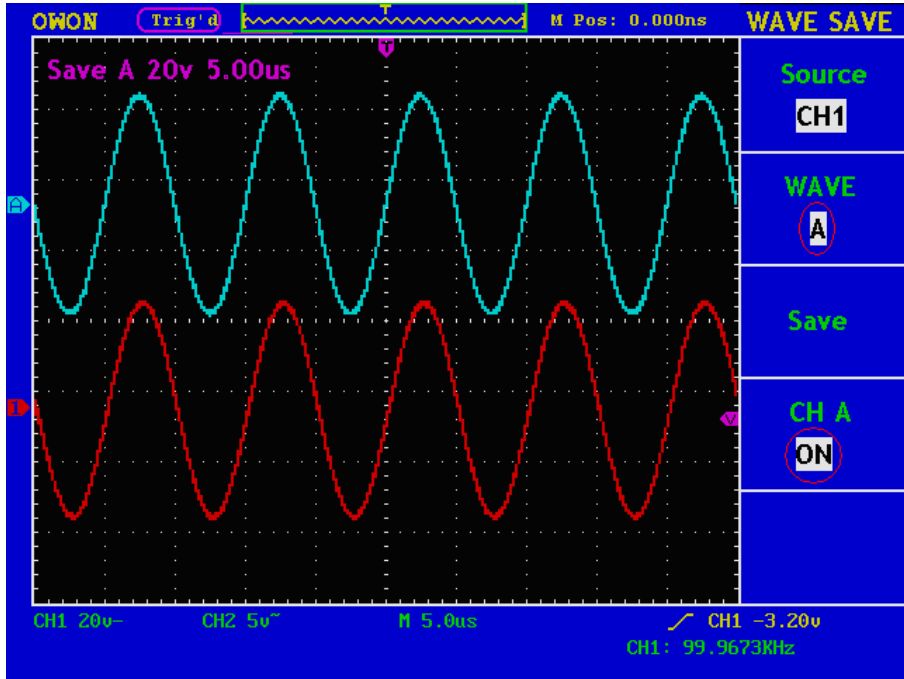

Fig.5-38 Wave Saving
4. Press the **F4** menu selection button and choose **ON** for CH A. The stored waveform A will be displayed in the screen. The voltage level and time base level will also be shown at the upper left corner of the display area at the same time (see Fig.5-38).